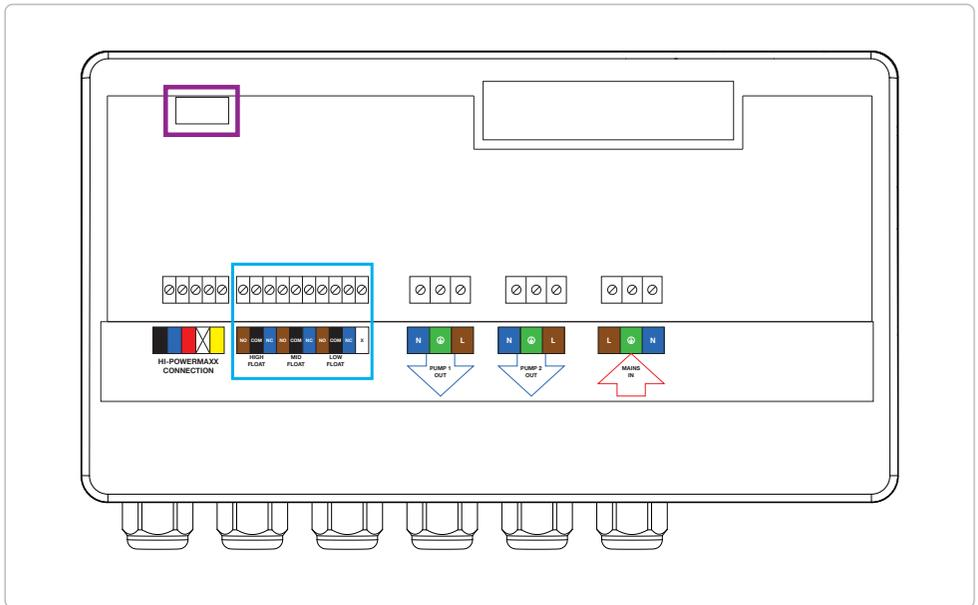

Figure 4. Wiring a float switches
3. Connect all three cables from each float switch cable to the terminal blocks (figure 4). **Use the internal wiring sticker for further guidance.**
See the highlighted area in PURPLE on figure 4 (page 11) for terminal block location.